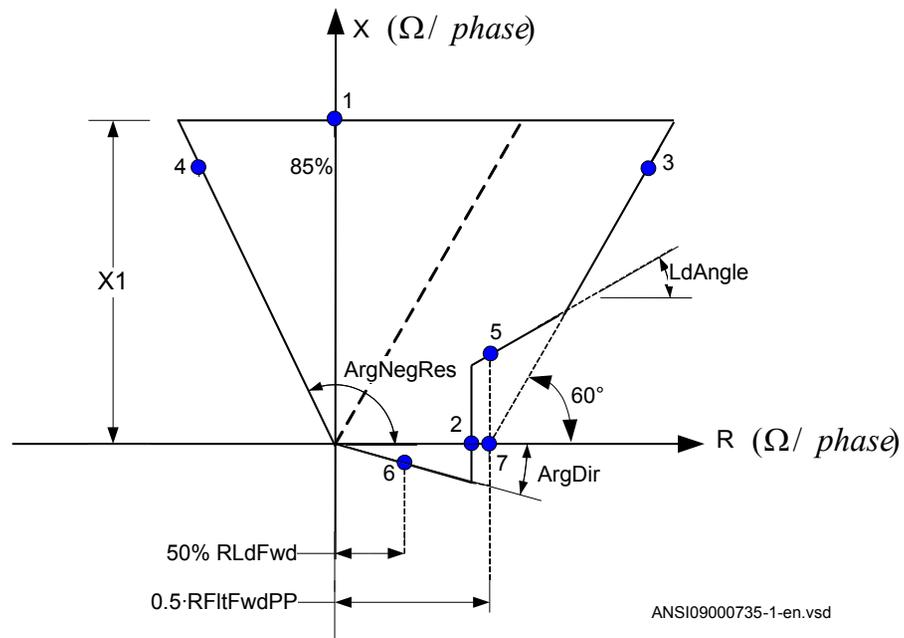

Figure 60: Operating characteristic for phase selection function, forward direction phase-to-phase faults
Table 24 is used together with figure 60.
4. Repeat steps 1 to 3 to find the operate value for the phase-to-phase fault in A - C according to figure 60 and table 24.